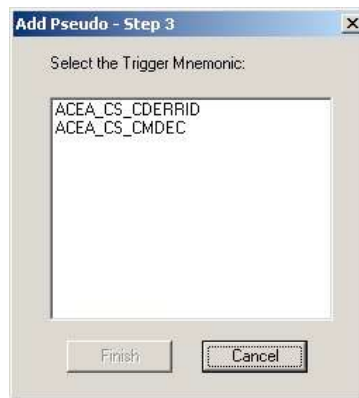

Figure 98: Add Pseudo - Step 3
- Click 'Next' to proceed to the "Add Pseudo – Step 3" screen (see Figure 98).